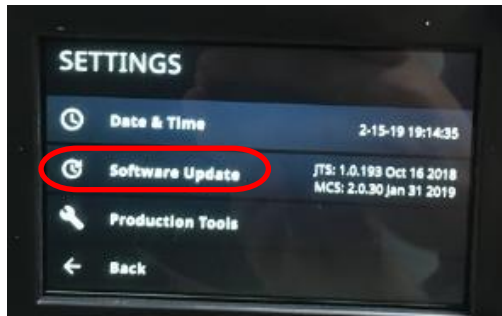

Figure E13: Settings Screen with Software Updates Circled.
22. Select SOFTWARE UPDATES. **See Figure E13.**